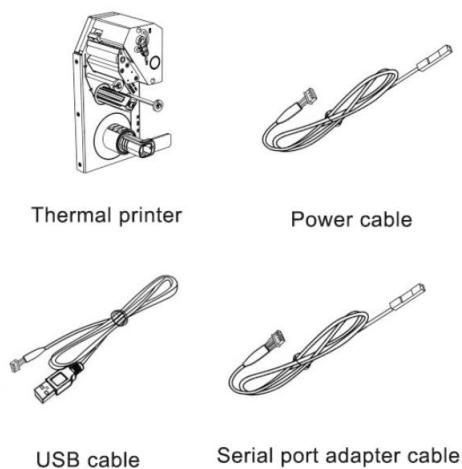

Figure 1-1
- 2) Ensure you have all the items shown in Figure 1-1 and check for any shipping damage